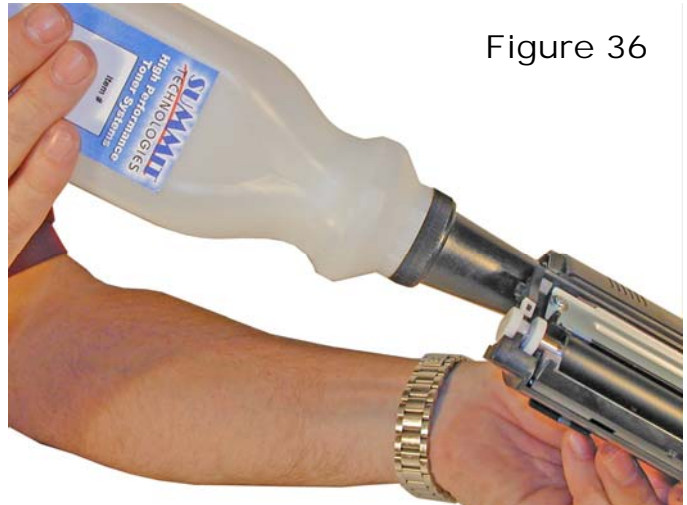

Figure 36
29) Fill with the appropriate QMS 2300 color toner, replace the fill plug. See **Figure 36**